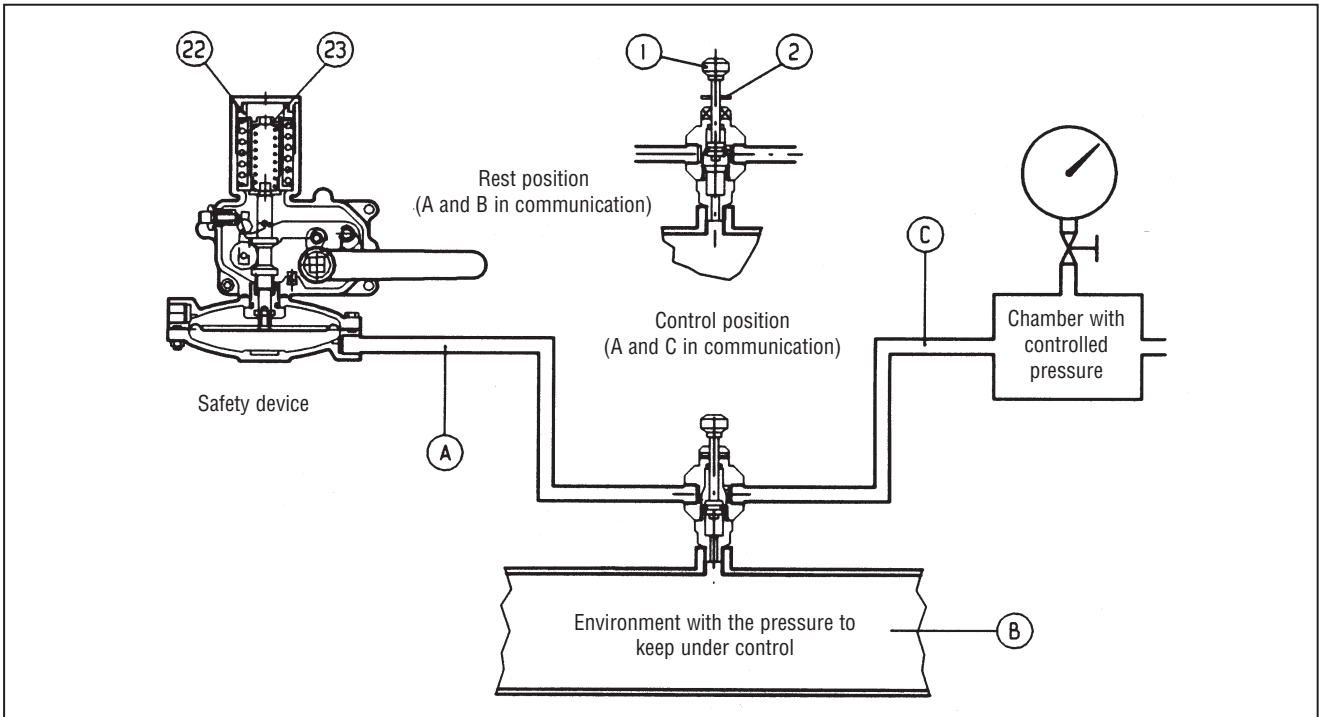

Fig. 17
A) For slam-shut devices connected to the down-line piping by means of the three-way "push" valve 11, proceed as follows (fig. 17):
- A) For slam-shut devices connected to the downstream piping by means of the three-way "push" valve 11, proceed as follows (fig. 17):